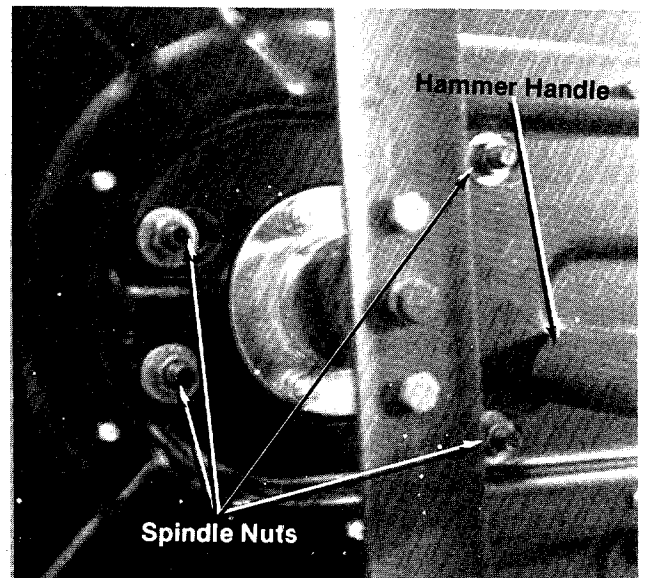

FIGURE 36
3. Loosen the four hub bolts. (See figure 36.)
6. Reassemble and adjust the belt tension. (See figure 36.)
1. Loosen the four spindle nuts on the bottom of the cutting deck. (See figure 36.)